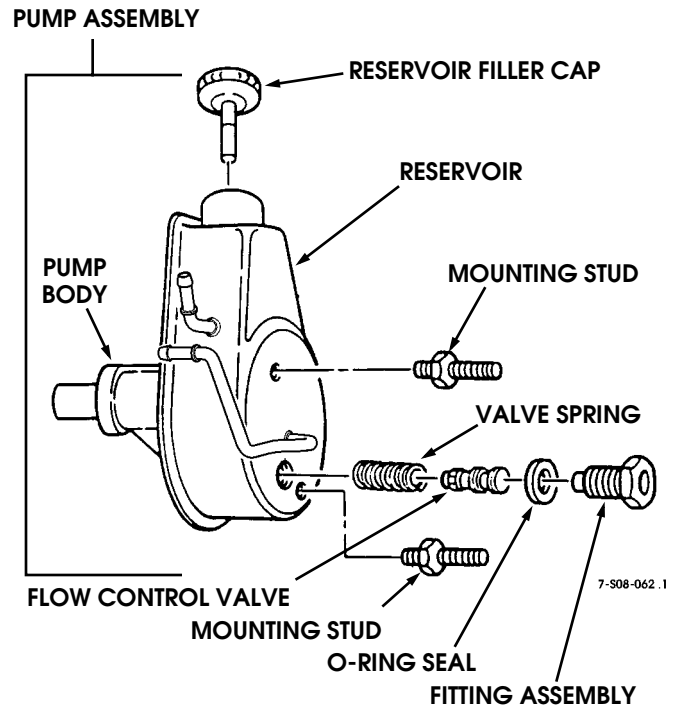

Figure 8-82: Final Assembly
- 19. Install two mounting studs on pump assembly. Tighten studs to 35 N.m 26 Ib-ft) (Figure 8-82).